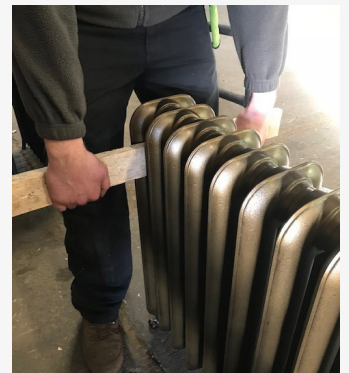

Fig.1
**Tip:** *It may help to insert suitably strong pieces of wood between the sections to aid carrying (Fig.1 opposite).*